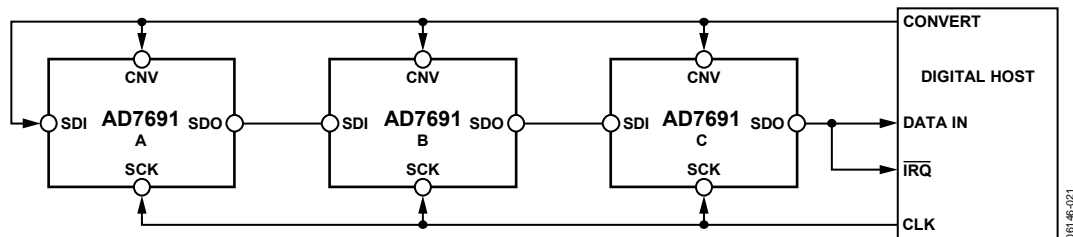
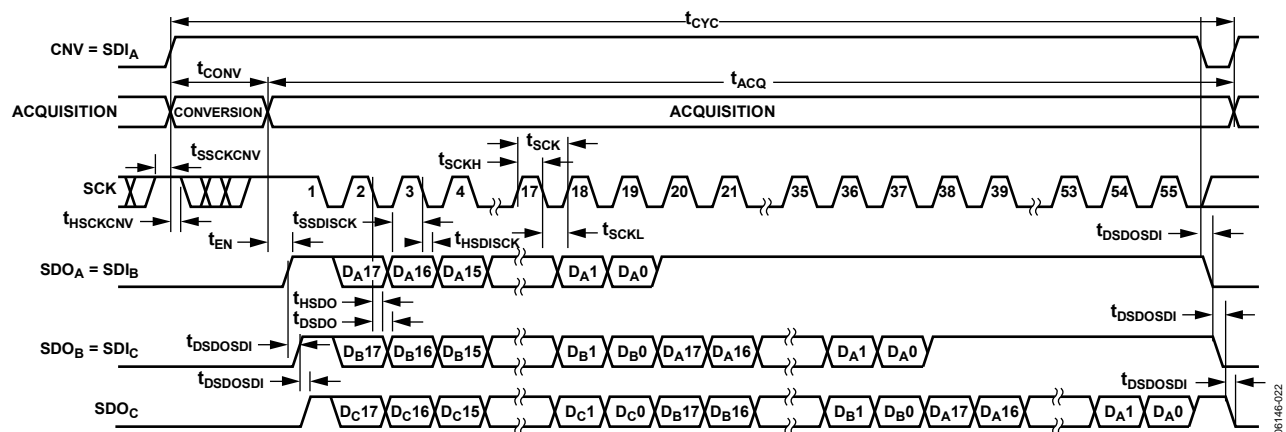

Figure 45. Chain Mode with Busy Indicator Connection Diagram
Figure 46. Chain Mode with Busy Indicator Serial Interface Timing
- In the chain mode if SCK is high during the CNV rising edge (see Figure 46).
A connection diagram example using three AD7691 devices is shown in Figure 45, and the corresponding timing is given in Figure 46.
completed their conversions, the SDO pin of the ADC closest to the digital host (see the AD7691 ADC labeled C in Figure 45) is driven high. This transition on SDO can be used as a busy indicator to trigger the data readback controlled by the digital host. The AD7691 then enters the acquisition phase and powers down. The data bits stored in the internal shift register are clocked out, MSB first, by subsequent SCK falling edges. For each ADC, SDI feeds the input of the internal shift register and is clocked by the SCK falling edge. Each ADC in the chain outputs its data MSB first, and  $18 \times N + 1$  clocks are required to readback the N ADCs. Although the rising edge can be used to capture the data, a digital host using the SCK falling edge allows a faster reading rate and, consequently, more AD7691 devices in the chain, provided the digital host has an acceptable hold time.